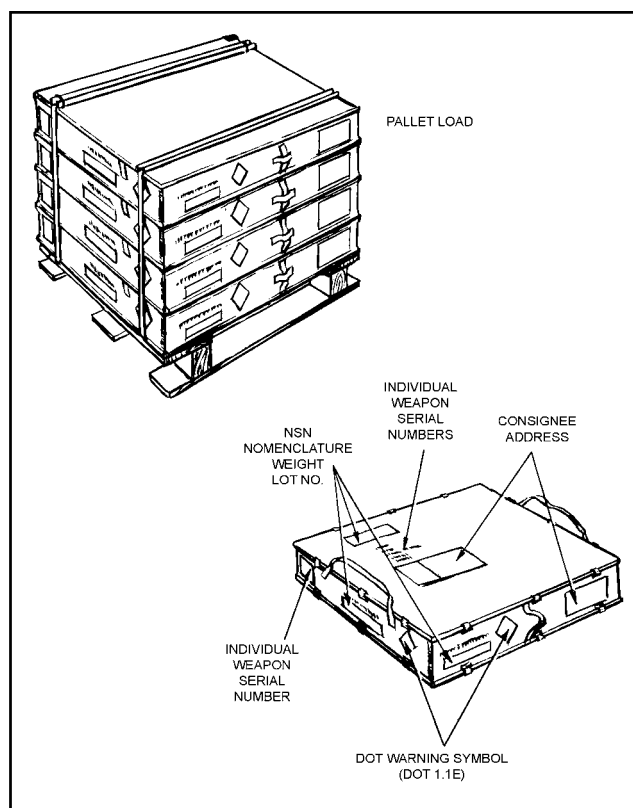

Figure 3-4. Ammunition packaging and markings.
b. **Packaging.** Five M136 AT4s, each wrapped in a plastic barrier bag, are packed together in a wooden container. The containers are too heavy to stack more than four deep on the pallets (Figure 3-4).